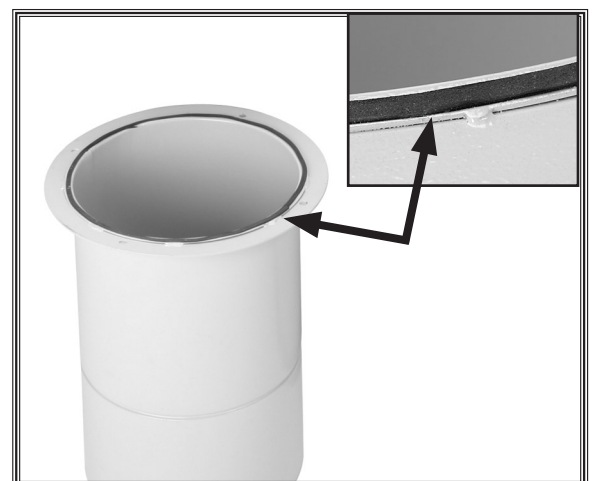

Figure 18. Foam tape adhered to intake cylinder.
8. Place the 3 x 6 x 1800mm roll of foam tape on the intake cylinder, as shown in **Figure 18**.